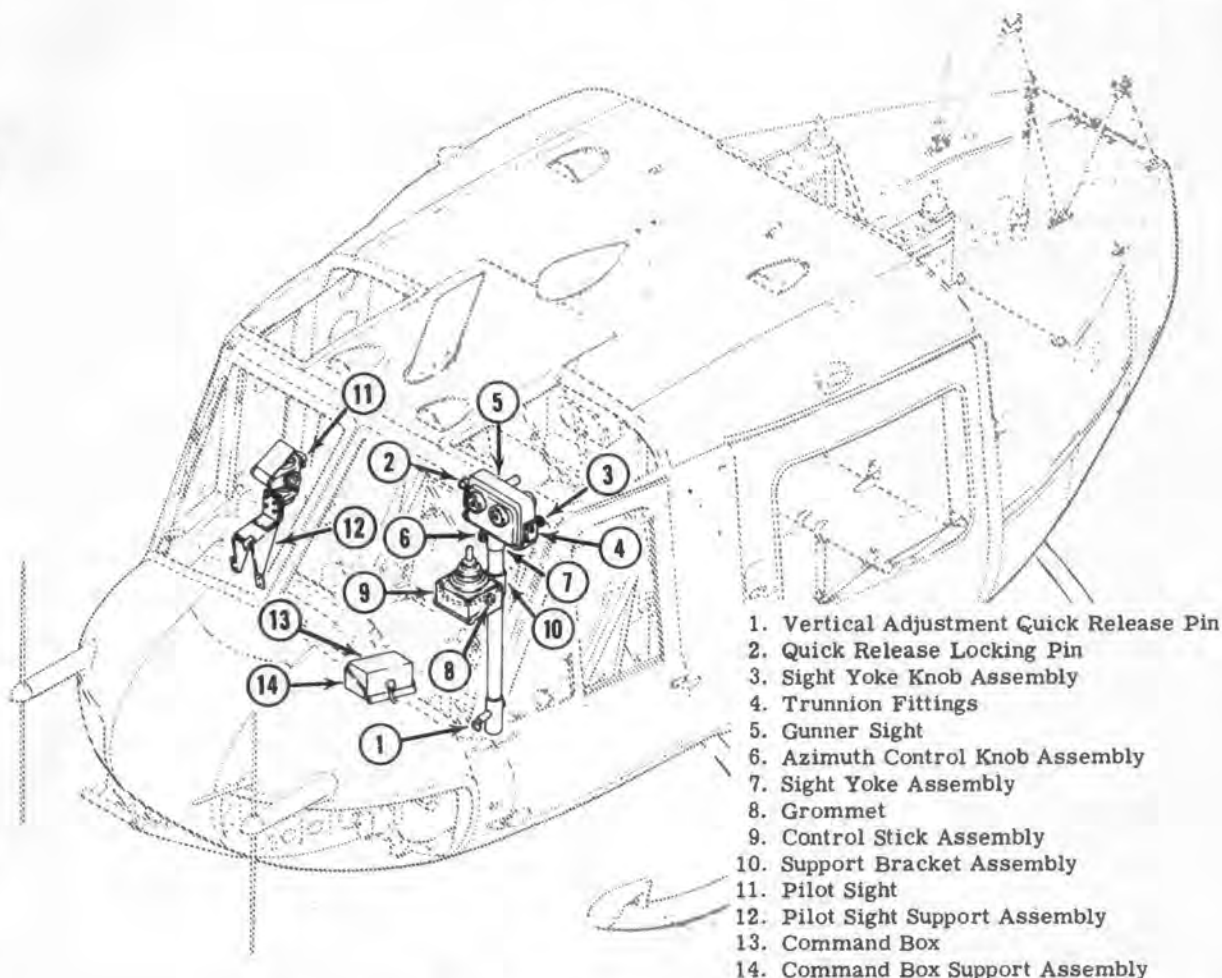

Figure 14-6. Gunner sight and control stick, pilot sight
14-62. Gunner Sight and Control Stick Assemblies. (See figure 14-6.) The gunner sight for the SS-11 missile installation is used in conjunction with the pilot sight to track the SS-11 missile during flight. It consists, basically, of two telescopes which are gimbal mounted on a pedestal. The pedestal is attached to the copilot's seat. Shock mounts, attached to the gimbals, reduce to an acceptable level the harmful effects of vibration on optical performance. A control knob, connected to the diaphragm of the shock mounts, adjusts the excursion limits of the shock mount. To insure that the gunner does not come in contact with the gimbals, and destroy the vibration isolation characteristics of the system, a headrest is rigidly mounted on the outer frame. The headrest may be locked in any one of three positions, on an adjustable bar, by lifting the spring-loaded arm and sliding the headrest to the desired position. A very large field of vision, with medium magnification, provides excellent spotting of moving objects. A pip pin enables the gunner to lock the gimbals in position when the sight is not in use. The control stick is mounted in a vertical position and is attached to the forward side of the gunner sight pedestal just below, and forward of, the two telescopes. This control stick when actuated by the gunner, originates the commands transmitted to the missile by the signal generator. The control stick is mechanically connected to sliding contacts on two variable resistors. These sliding contacts determine the polarity and amplitude of the output signal from the signal generator.
14-64. Inspection — Gunner Sight and Control Stick Assemblies. (See figure 14-6.) a. Check grommet for damage or deterioration.
14-65. Repair and Replacement — Gunner Sight and Control Stick Assemblies. (See figure 14-6.)
14-66. Installation — Gunner Sight and Control Stick Assemblies. (See figure 14-6.) a. Position the control stick support bracket assembly (10) on the pedestal support tube and install attaching bolts, washers and nuts.
b. Position the control stick assembly (9) on the support bracket assembly (10), and install attaching screws, washers and nuts.
c. Thread control stick electrical wiring into pedestal support tube and install grommet (8).
d. Position sight yoke assembly (7) on pedestal support tube. Position gunner sight (5) in yoke assembly, and install azimuth control knob assembly (6).
e. Position trunnion fittings (4) and install attaching washers and screws. Safety wire screws. Install sight yoke knob assembly (3) and insert quick release locking pin (2).
g. Adjust the pedestal to the desired height and insert the vertical adjustment quick release pin (1).
14-67. Adjustment — Control Stick Support Bracket. (See figure 14-6.) a. Remove two nuts, washers and bolts which attach the control stick support bracket assembly (10) to the pedestal support tube and remove the bracket assembly from the tube.
b. Position the control stick support bracket assembly (10) on the pedestal support tube and secure with bolts, washers and nuts.
14-68. Pilot Sight Assembly. (See figure 14-6.) The SS-11 missile installation sight is used by the pilot as an aid in maintaining alignment of the helicopter with the target during firing of a missile. The sight is mounted on a support assembly which is attached to the right-hand side of the instrument panel in front of the pilot's seat. The pilot sight consists of a sight body, a lamp and housing with a Mark 4 MOD O reflector assembly. A small control panel on the center console contains a FIL 1 — FIL 2 switch and an intensity control for illumination of the reticle.
14-69. Removal — Pilot Sight Assembly. (See figure 14-6.) a. Remove four nuts and bolts attaching pilot sight (11) to support assembly (12), and remove pilot sight.
b. Remove five nuts, washers and screws attaching pilot sight support assembly (12) to right-hand side of instrument panel, and remove support assembly.
14-70. Installation — Pilot Sight Assembly. (See figure 14-6.) a. Position pilot sight support assembly (12) on instrument panel, and install attaching screws, washers and nuts.
b. Position pilot sight (11) against support assembly (12), and install attaching bolts and nuts.
14-71. Command Box. (See figure 14-6.) The command box for the SS-11 missile installation is located on a support assembly which is attached to the lower, left-hand, forward corner of the center console. The command box contains the controls necessary for operation of the SS-11 missile system. The controls on the command box enable the gunner to perform the following functions:
14-72. Removal — Command Box. (See figure 14-6.) a. Disconnect electrical wiring from bottom of command box.
b. Remove two screws attaching command box (13) to support assembly (14). Carefully lift command box from support assembly.
d. Remove four screws attaching command box support assembly (14) and remove support assembly.
14-73. Installation — Command Box. (See figure 14-6.) a. Position command box support assembly (14) on lower, left-hand, forward corner of center console and install attaching screws.
c. Position command box (13) on support assembly (14) and install two attaching screws.